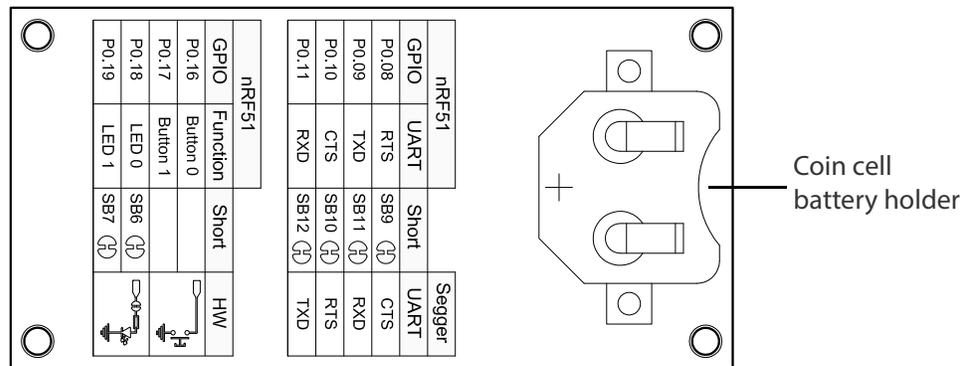

Figure 8 Coin cell battery supply
- CR2032 coin cell battery (see *Figure 8*)